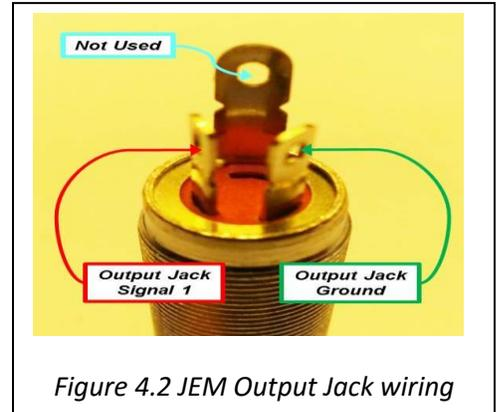

Figure 4.2 JEM Output Jack wiring
2. Solder the signal and ground wires to the jack (see Figure 4.2) (Note: if the signal wire is shielded, solder the shield to the ground terminal on the jack).